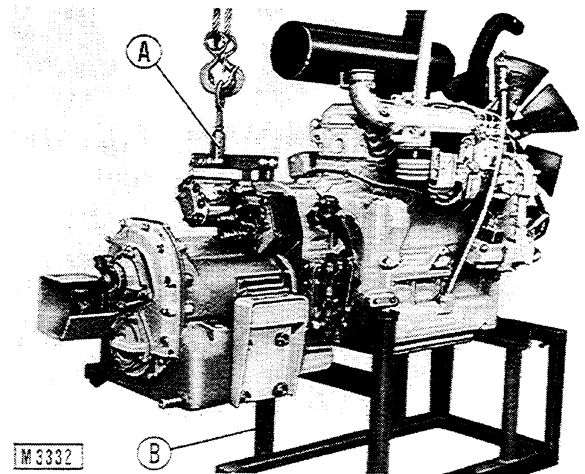

Fig. 3-1 - Engine - transmission assembly in position on stand 75297150 (B)
- Rest assembly on stand 75297150 (B, fig. 3-1).